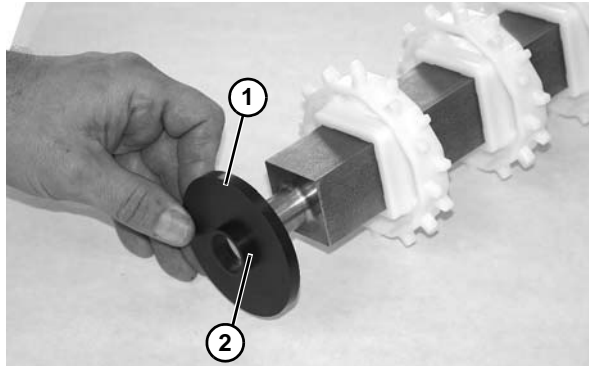

Figure 58
- Remove washer (**Figure 58, item 1**), as shown, making note of flange area (**Figure 58, item 2**) of washer. Repeat on opposite side, if needed.